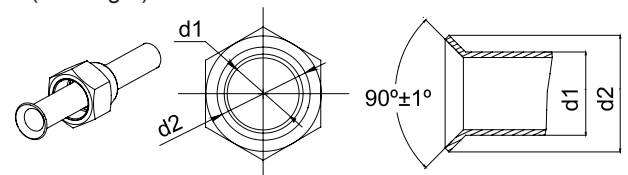

Fig.7
- (1). Cut the connection pipe with the pipe cutter and remove the burrs.
- (2). Hold the pipe downward to prevent cuttings from entering the pipe.
- (3). Remove the flare nuts at the stop vave of the outdoor unit and inside the accessory bag of the indoor unit, then insert them to the connection pipe, after that, flare the connection pipe with a flaring tool.
- (4). Check with the flare part is spread evenly and there are no cracks(See Fig.7)